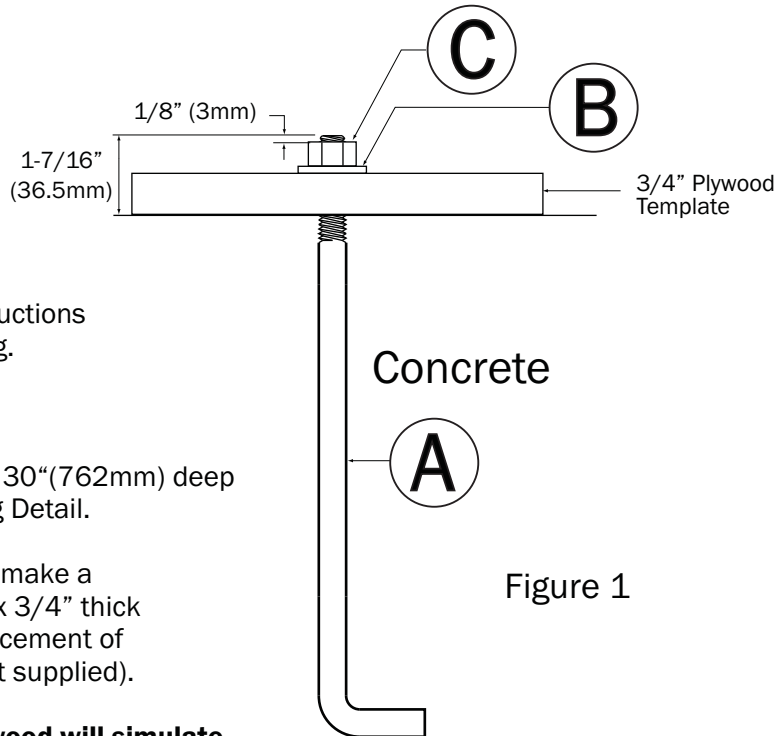

Figure 1
3. From center of plywood, mark (4) holes from Base Plate onto plywood and drill 1/2" thru holes.
4. Insert (4) 1/2" Anchor Bolts (A) into holes in plywood and secure with (4) Flat Washers (B) and (4) Hex Nuts (C).
! **Tighten Hex Nuts (C) onto Anchor Bolts until thread extends 1/8" beyond nut . (See Figure 1).**
6. After concrete has cured, loosen and remove Hex Nuts (C) and Flat Washers (B). Remove Plywood Template.
7. Align holes in Base Plate of Spring Rider with Anchor Bolts (A) in concrete.
8. Secure Spring Rider to concrete footer with (4) Flat Washers and (4) Hex Nuts.
2. Place In-ground Mounting Bracket(A) into center of hole and fill hole with concrete.
Install In-ground Mounting Bracket(A) so that the (2) footer posts are aligned perpendicular to the horizontal See Saw Post. See Figure 1.